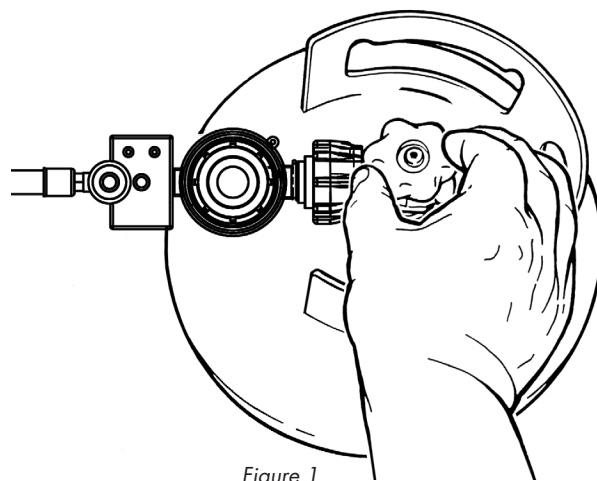

Figure 1
1. Open tank cylinder control valve by turning it to OPEN Direction (*Figure 1*).